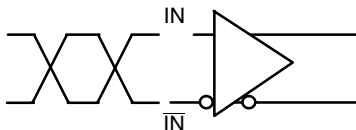

Figure 7. Differential Inputs Driven Differentially
**DIFFERENTIAL INPUTS DRIVEN DIFFERENTIALLY** (See Figures 7 and 8) (Note 7)